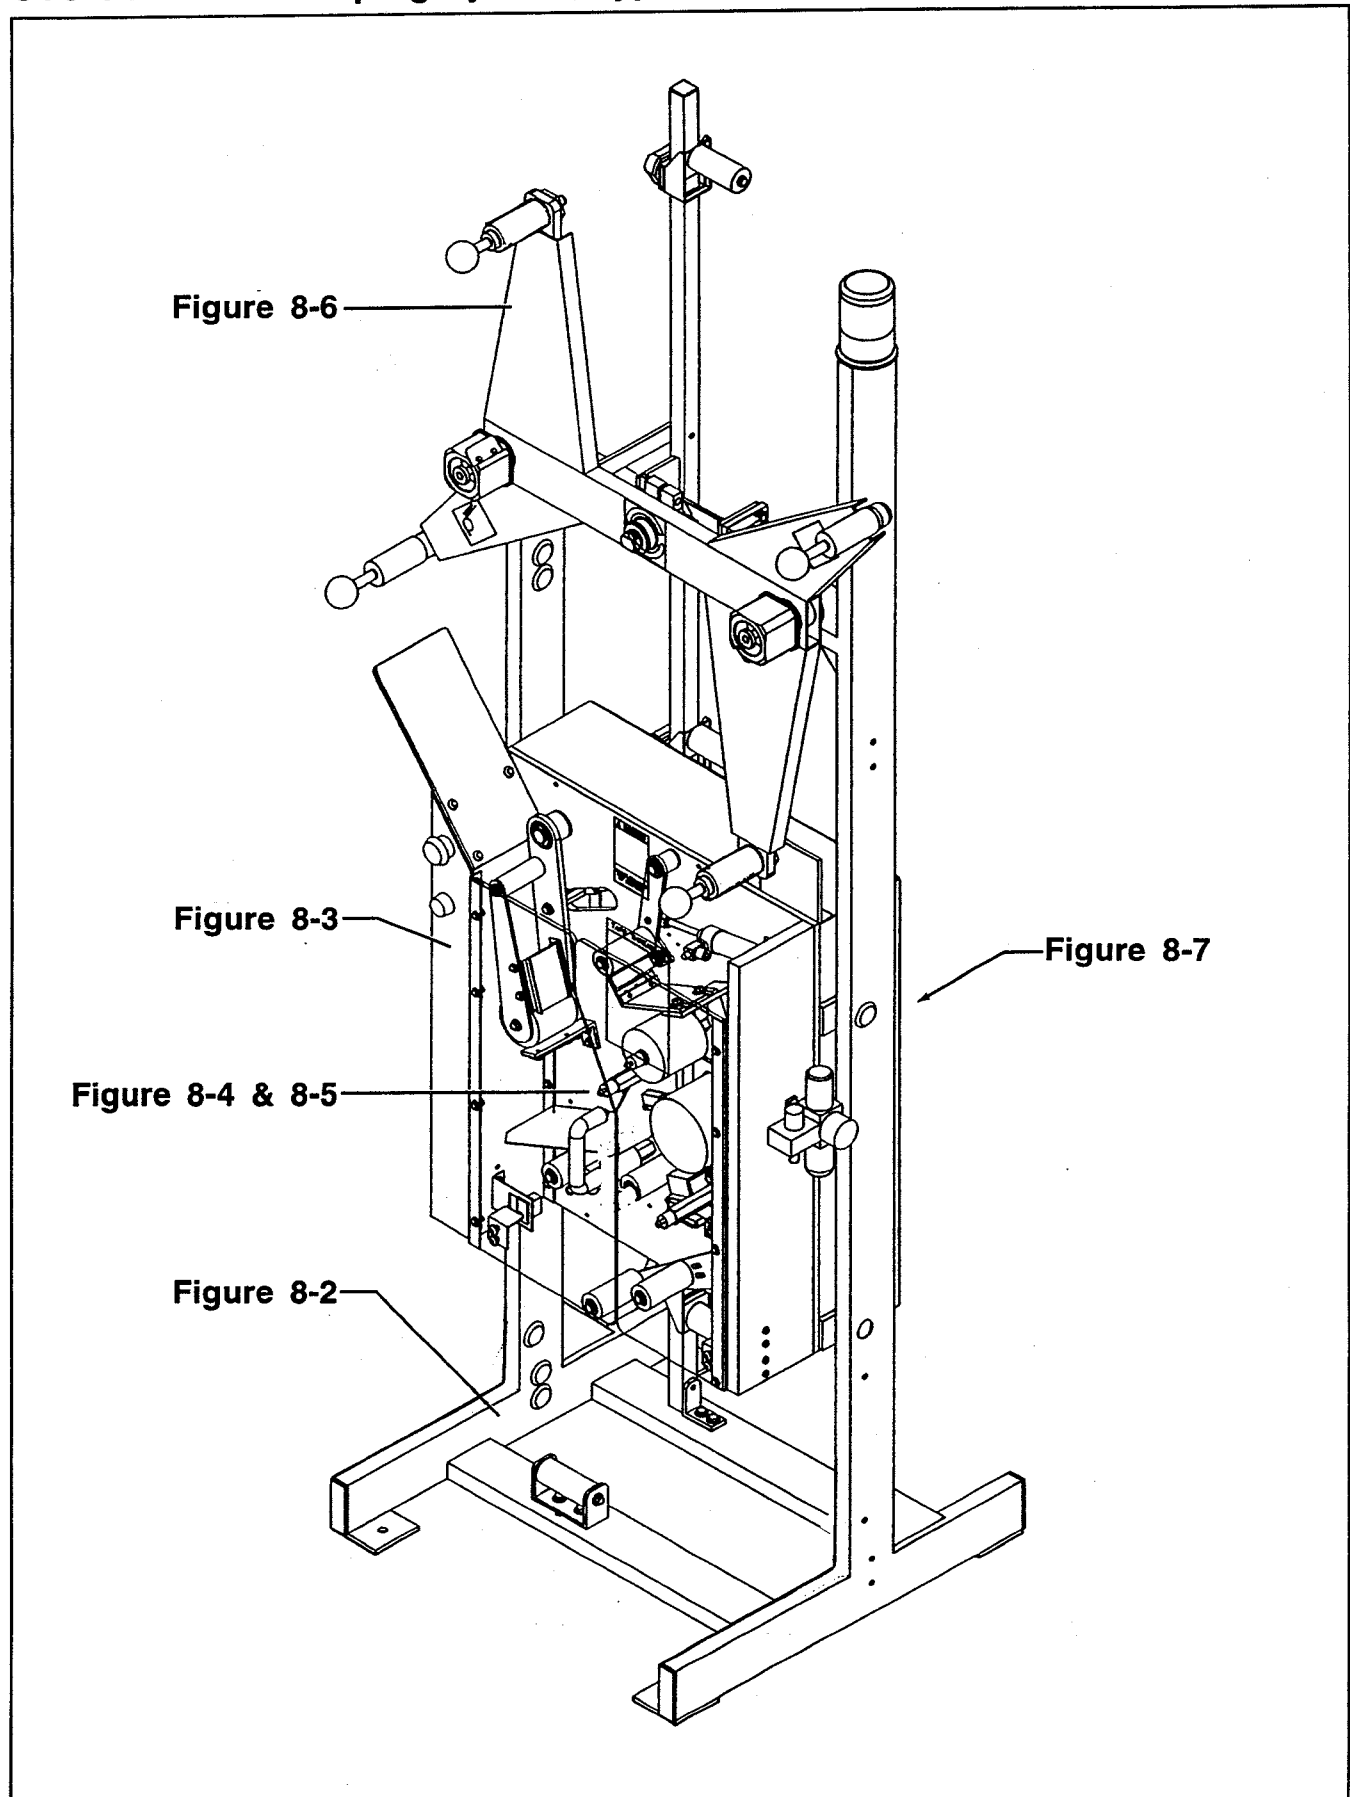

Figure 8-1 – CTS Assembly
1. Refer to CTS Assembly, Figure 8-1 to find the correct parts illustrations to refer to.